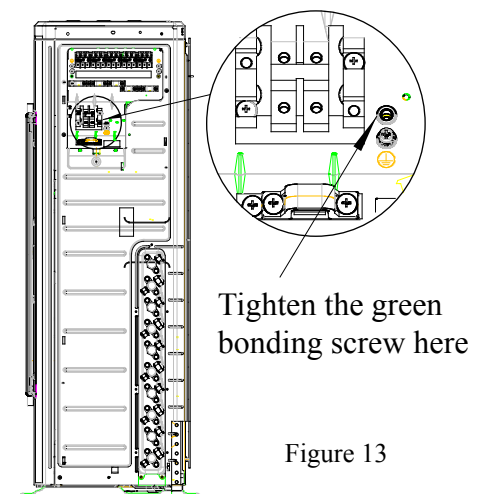

Figure 13
(2). Connect the power cord to the terminals "L1", "L2" and also the earthing screw, and then connect the wiring terminals "N(1),2,3" of the indoor unit to those of the outdoor unit correspondingly. Please use the green bonding screw to connect the earthing cord. The location is showing in the figure 13.